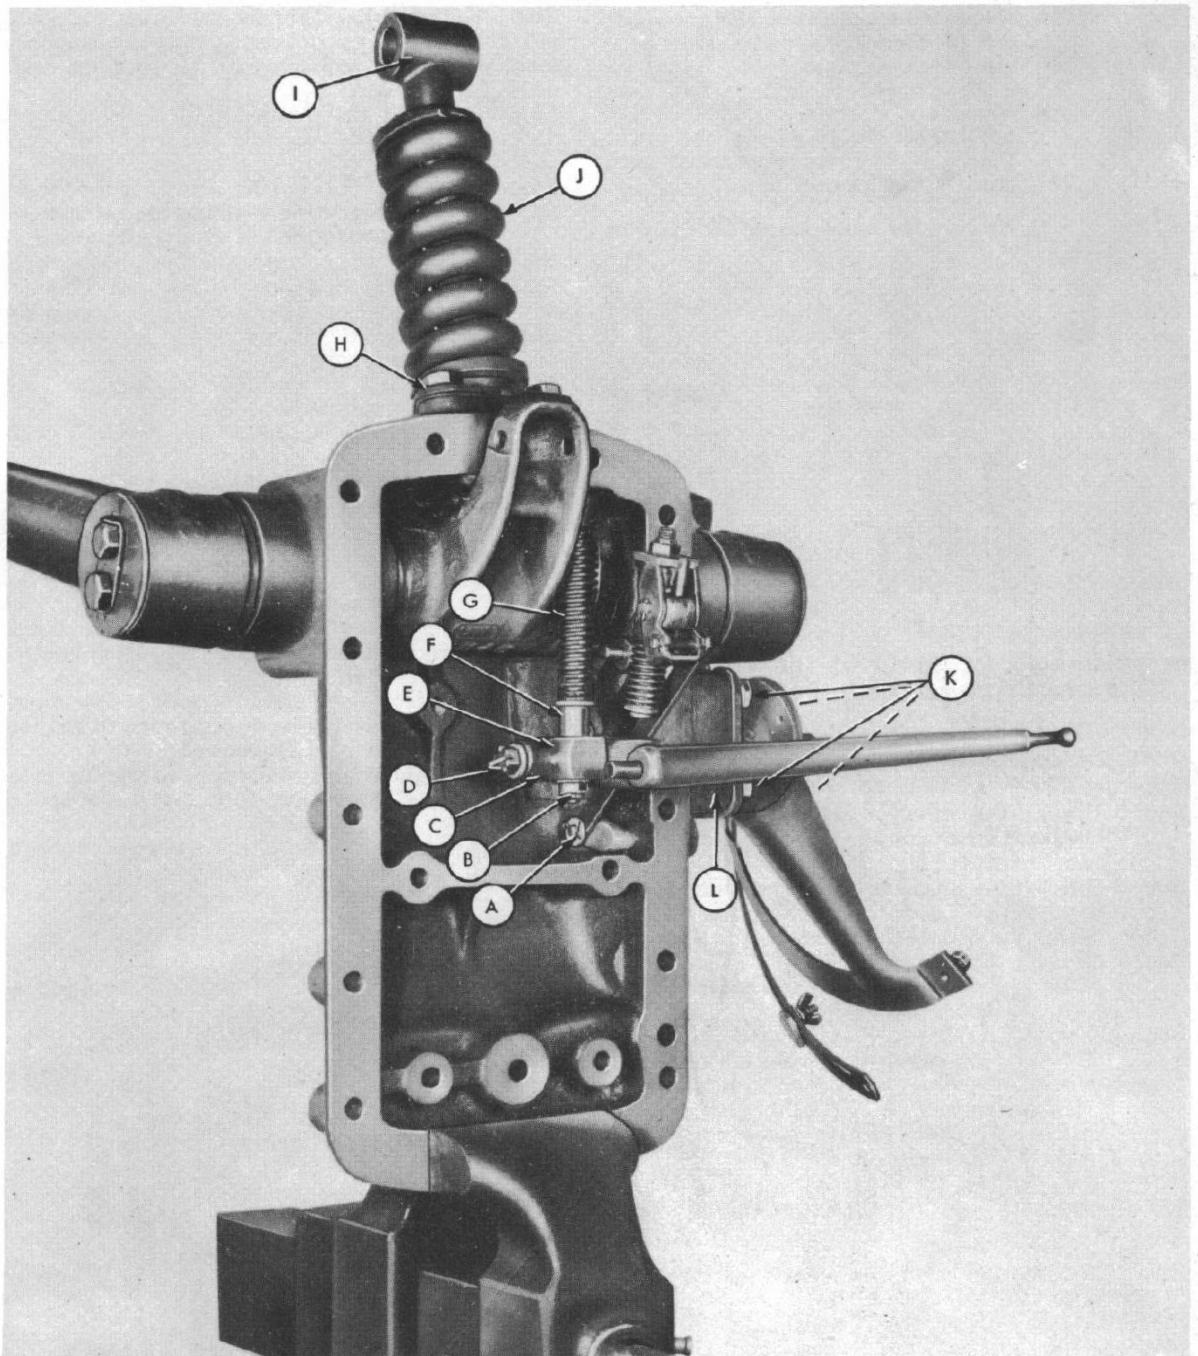

Fig. 4
- Step 8—Remove the cotter pin (A-Figure 4) and the flat washer which secures the implement position control lever to the implement position control linkage.
- a. Unscrew the yoke (I-Figure 4) and remove the main control spring (J-Figure 4).
- b. Remove the cotter pin, nut, and the flat washer (D-Figure 4) from the touch control lever shaft.
- c. Remove the self-locking nut and flat washer (B-Figure 4) from the lower end of the constant draft control spring.
- d. Remove the four cap screws and washers (K-Figure 4) and remove the quadrant assembly.
- e. Remove the swivel (E-Figure 4), bushing (F-Figure 4) and the spring (G-Figure 4) from the constant draft plunger and control arm.
- f. Remove the control arm (L-Figure 4).
- g. Remove the touch control lever shaft (C-Figure 4) and the implement position control linkage assembly.
- i. Remove the main control spring support and cover plate (H-Figure 4).